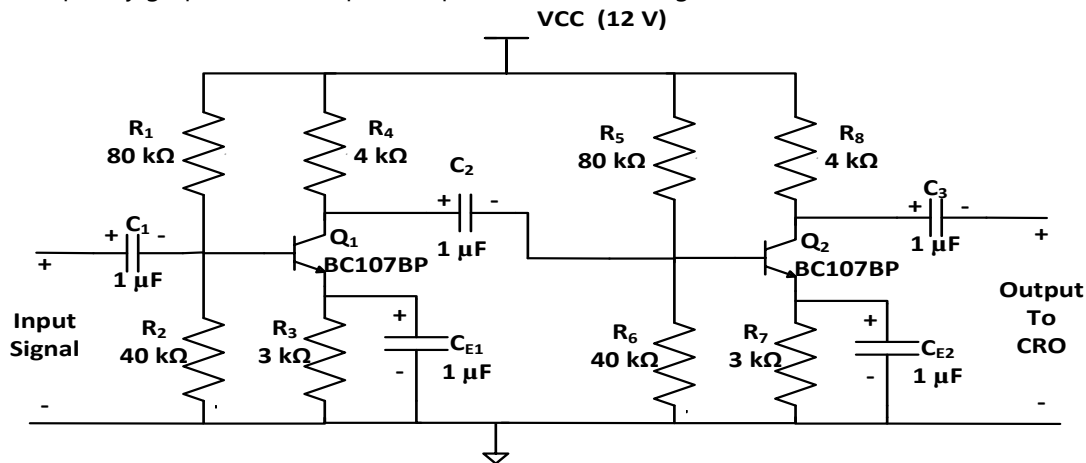

Figure 3.1: Two stage RC coupled amplifier
3.1 Simulate the two stage RC coupled amplifier as shown in figure 3.1 using multisim. Draw the gain versus frequency graph for RC coupled amplifier as shown in figure 3.1.